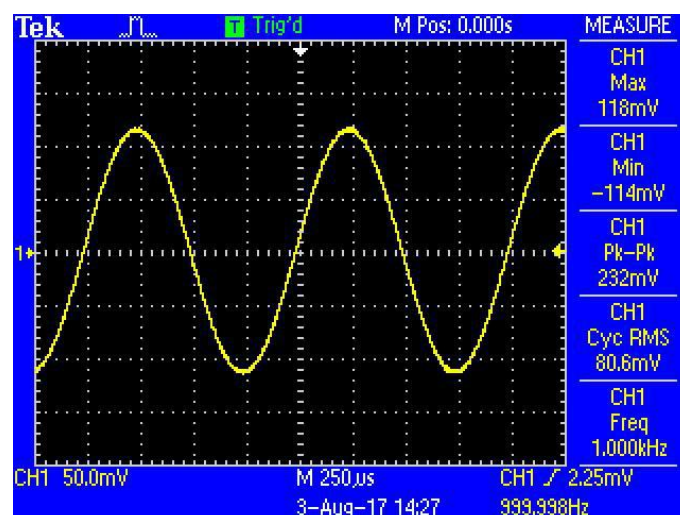

Fig.88 Parameters of Measured Signal
3. Turn on the function signal generator and set “Function: Sine”, “Amplitude: 80mVrms”, “Frequency: 1kHz”, “Output Impedance: High Z”, as is shown in Fig.88.